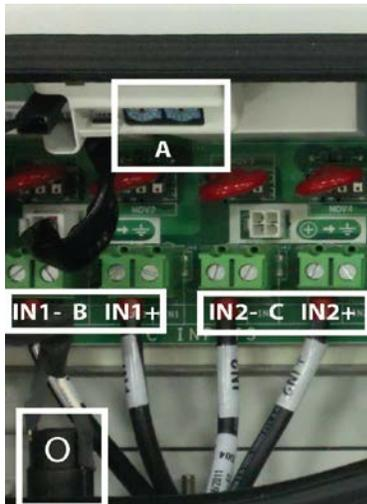

Figure 1.06 - DC Array Connections
1. Refer to Figure 1.06 and locate the designated entry locations for the conduits from the DC array and to the AC grid.